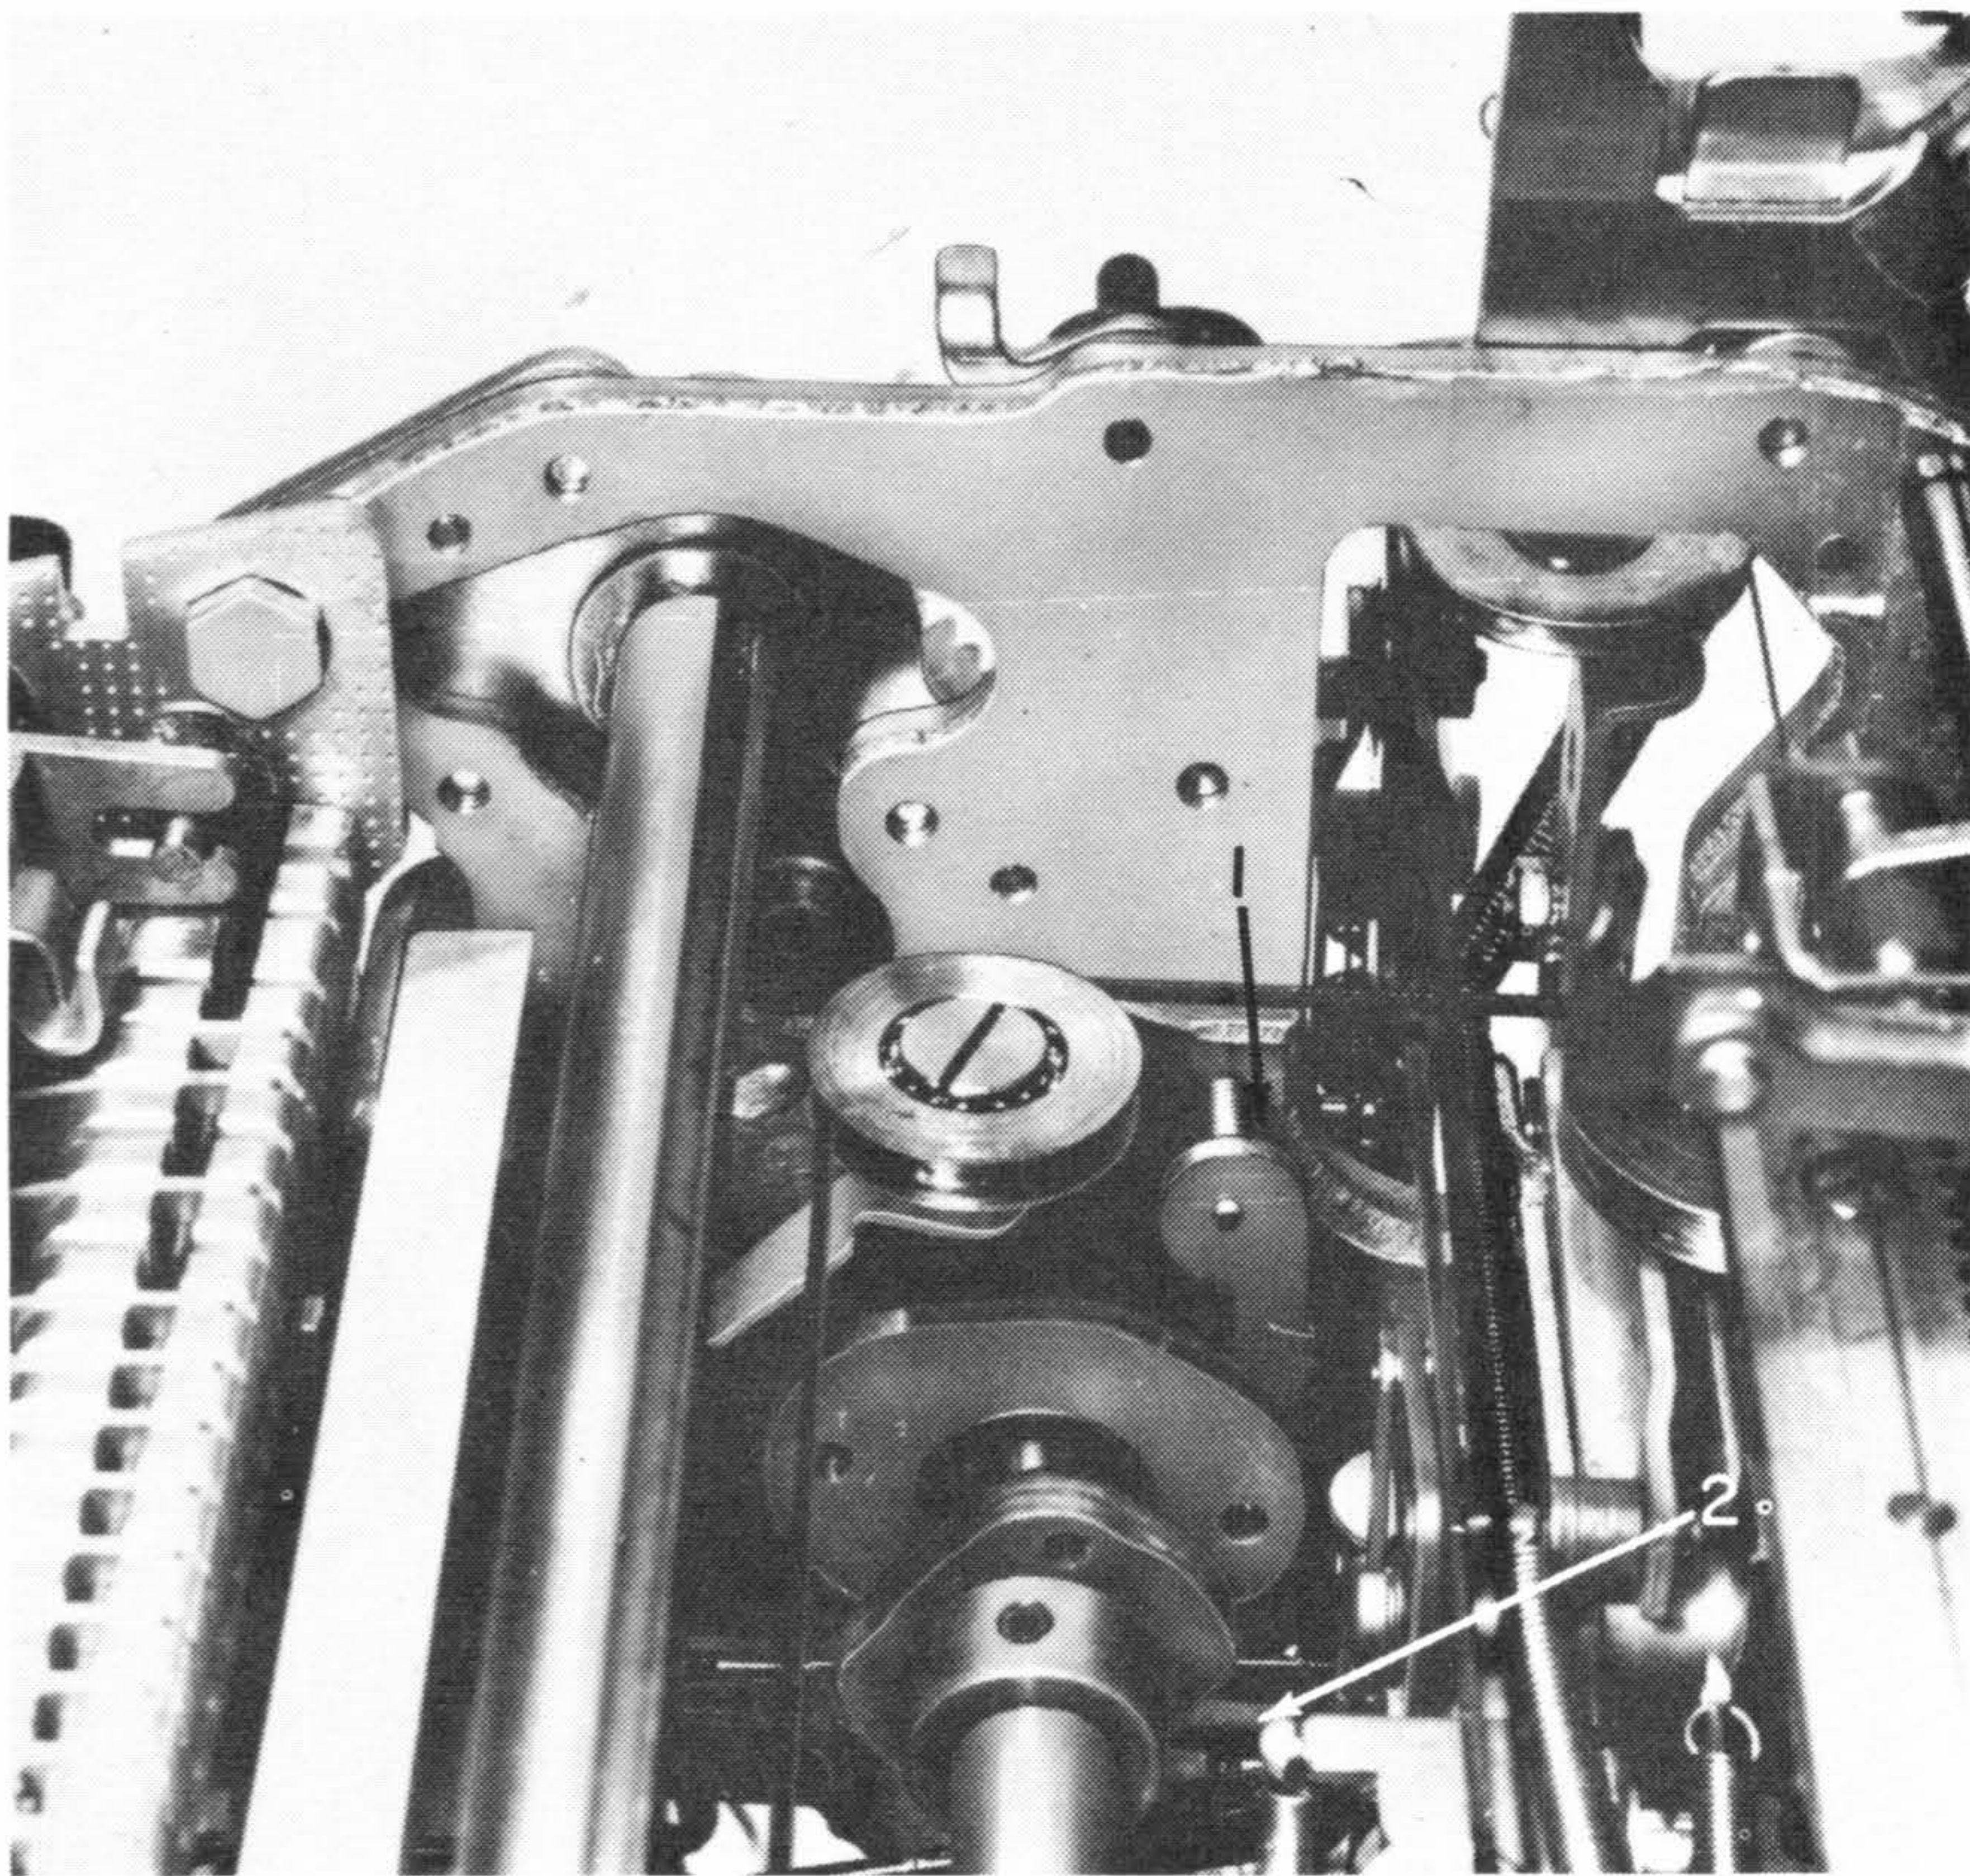

Figure 8. Belt Replacement
7. Remove the cycle-clutch check pawl and spring (#1, Figure 8).